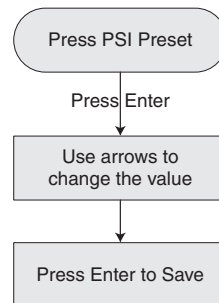

Figure 14 - PSI Preset: Change PSI Setpoint
- ◆ Via the PSI Preset (Figure 14).